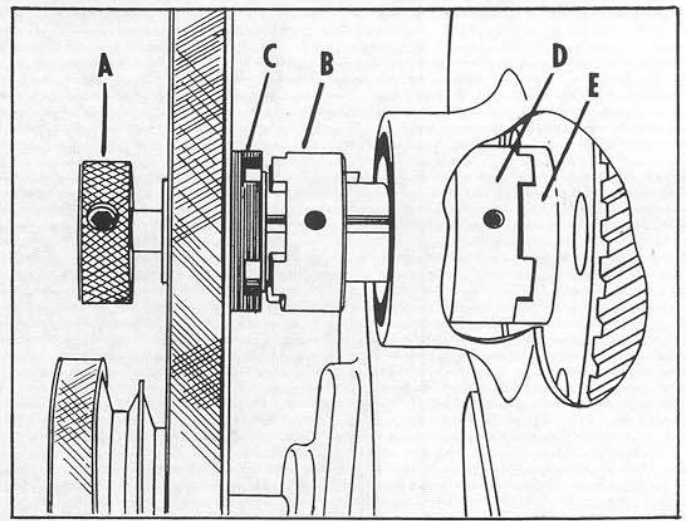

Fig. 20
When using your machine for metal cutting (40, 60, 85, 115, 160, 220 and 335 FPM), the shifter knob (A) Fig. 20, is always pushed in all the way, disengaging the clutch (B) from the hub (C) of the pulley. An additional clutch (D) is located inside the band saw and must be engaged with the hub (E) of the gear that transmits power through the gear box, as shown in Fig. 20. When pushing in on the shifter knob (A) Fig. 20, rotate the lower wheel of the band saw, and you will be able to feel when engagement occurs.